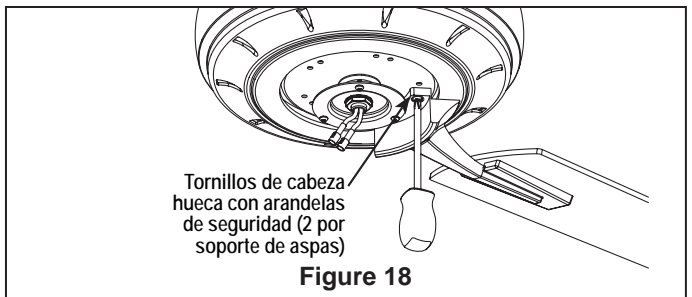

Figure 18
4. Attach blade holders to the bottom of the fan motor hub using the 1/4-20 x 1/2" socket head screws w/lockwashers. Make sure the screws with lockwashers securing the blade holders to the fan motor hub are tight and that the blade holders are properly seated. (Figure 18)